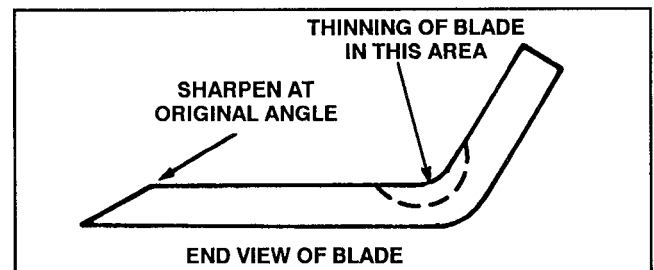

Figure 25
7. Using a file, sharpen cutting edge at both ends of the blade (Fig. 25).
Check cutter blade every time rider is tipped on end. If blade bolt holding blade is loose, tighten it to 45-60 ft-lb (61-81 N.m). If blade or sail (Fig. 25) at end of blade is worn, eroded or cracked, replace the blade. Replace the blade if it is bent or out-of-balance. Always use a genuine TORO replacement blade to ensure safety and best performance. NEVER USE A WILL-FIT REPLACEMENT BLADE.